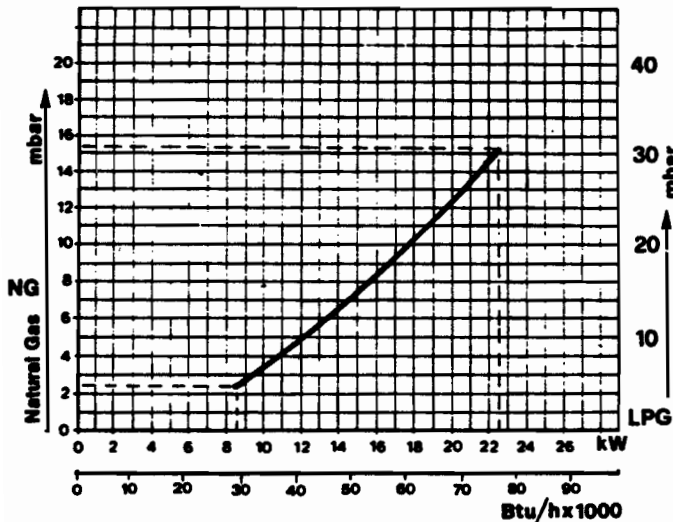

Fig. 4 - Burner pressure VS C.H. load
6. Check required burner pressure in fig. 4.